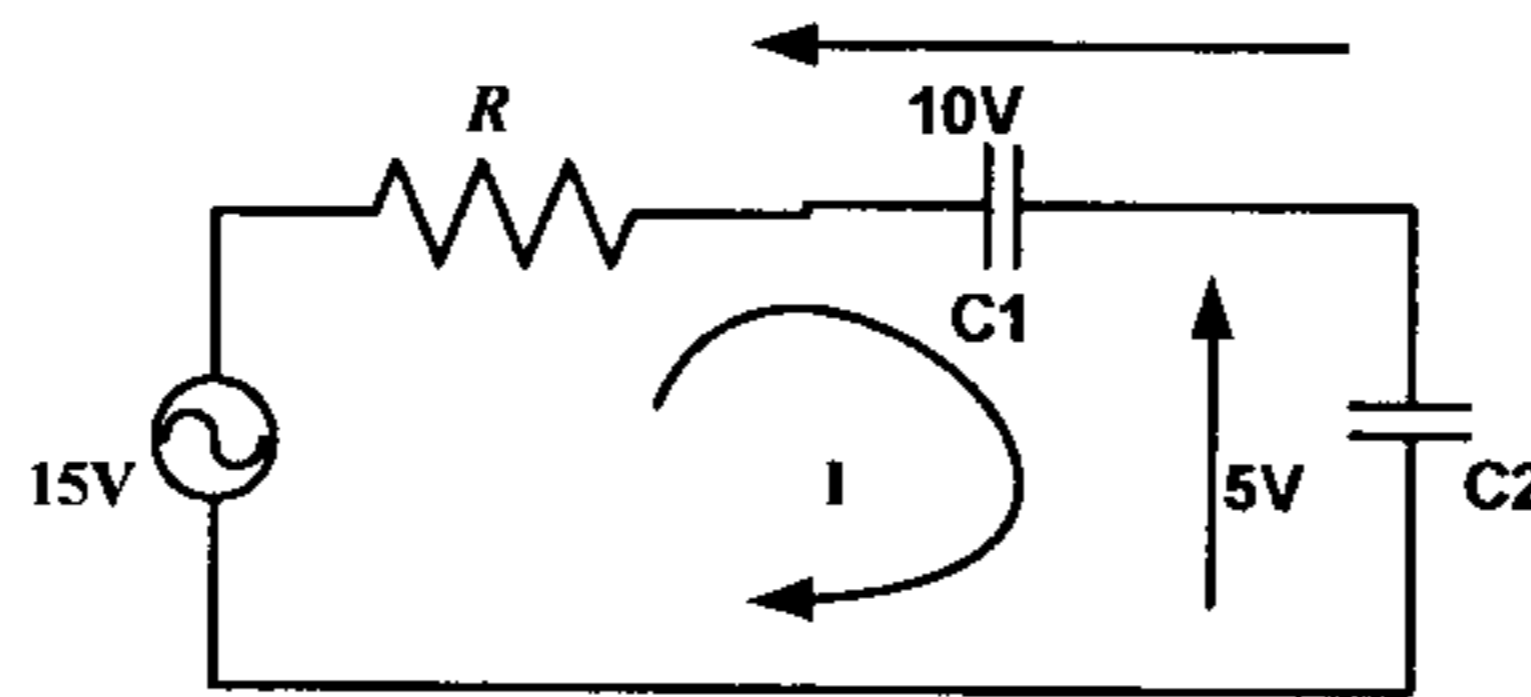

Fig.3
b) The RMS values of voltages are shown in Fig.3 below, if the value of R is 5Ω , what is the RMS value of the current in the ac circuit? 5 M